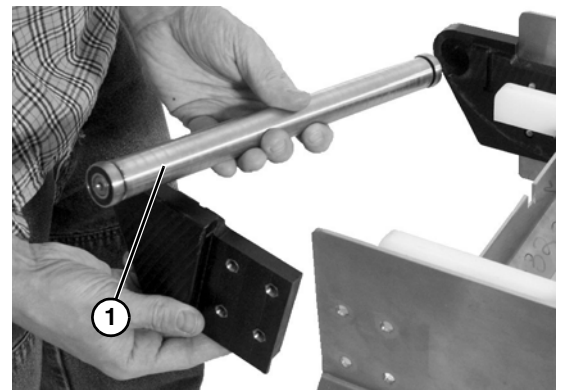

Figure 45
6. Slide off idler roller bearing assembly (**Figure 45, item 1**).